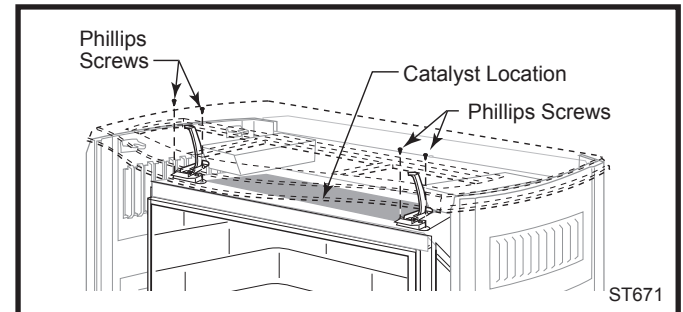

Fig. 20 Attach glass latches.
6. Latches provided in catalyst kit must be installed on top of firebox. Use two phillips screws to secure in place. (Fig. 20)